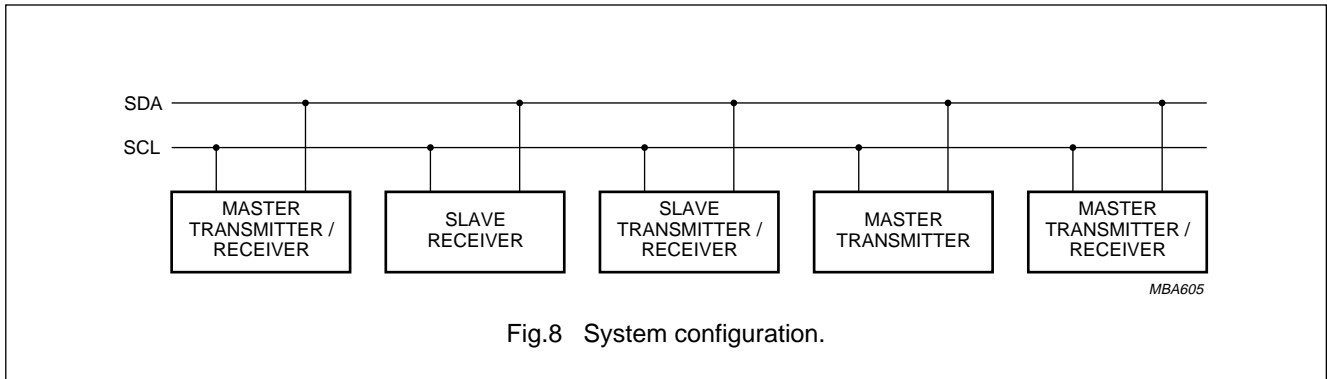

Fig.8 System configuration.
8.3 System configuration (see Fig.8)